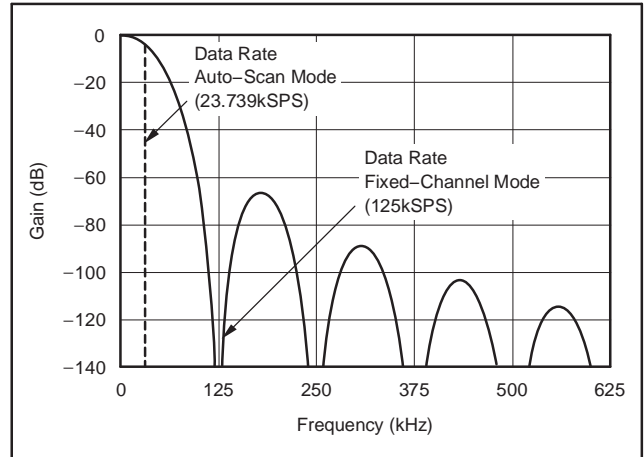
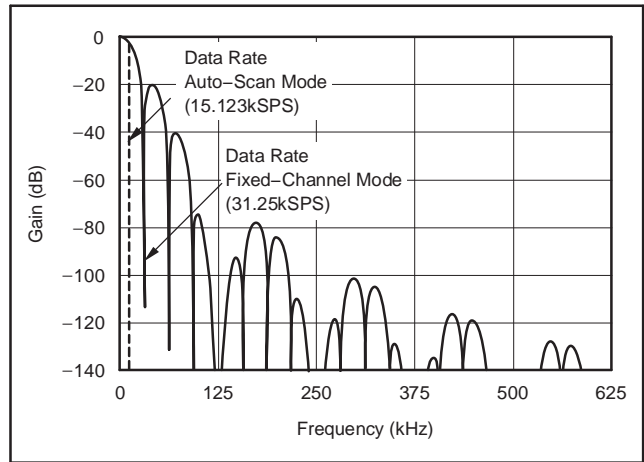

Figure 43. Frequency Response, DRATE[1:0] = 11
Figure 44. Frequency Response, DRATE[1:0] = 10
The low-pass filter has notches (or zeros) at the data output rate and multiples thereof. The sinc5 part of the filter produces wide notches at  $f_{CLK}/128$  and multiples thereof. At these frequencies, the filter has zero gain. Figure 43 shows the response with no post averaging. Note that in Auto-Scan mode, the data rate is reduced while retaining the same frequency response as in Fixed-Channel mode.
Figure 44 shows the response with averaging set to 4 (DRATE[1:0] = 10). 4-reading, post-averaging produces three equally-spaced notches between each main notch of the sinc5 filter. The frequency response of DRATE[1:0] = 01 and 00 follows a similar pattern, but with 15 and 63 equally-spaced notches between the main sinc5 notches, respectively.
(2) Num\_Ave is the number of averages performed by the digital filter second stage.
(3) In Auto-Scan mode, the data rate listed is for a single channel; the effective data rate for multiple channels (on a per-channel basis) is the value shown in Figure 43 and Figure 44 divided by the number of active channels in a scan loop.
Referring to Figure 43 and Figure 44, frequencies present on the analog input above the Nyquist rate (sample rate/2) are first attenuated by the digital filter and then alias into the passband.